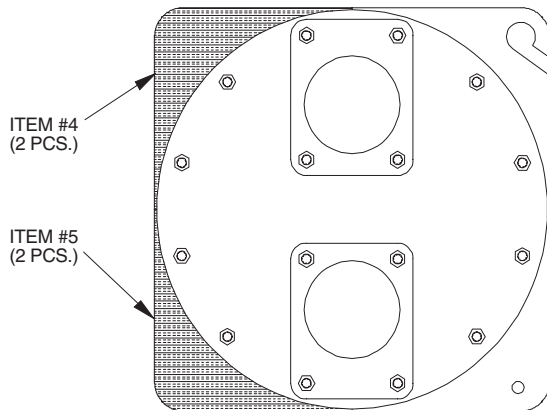

Fig. 3 — Outside Tubesheet Face (Half-Insulated)
Step 1 — Insulate End Tubesheets (Outside) — Insulate the outside face of one of the end tubesheets using 4 pieces of Item 4 and 4 pieces of Item 5. These pieces are one inch thick and will require one on top of the other to achieve a two-inch thickness. Apply adhesive to insulation and tubesheet as directed by adhesive manufacturer. Cover tubesheet as shown in Fig. 3 and 4. Repeat the process for the opposite end tubesheet.